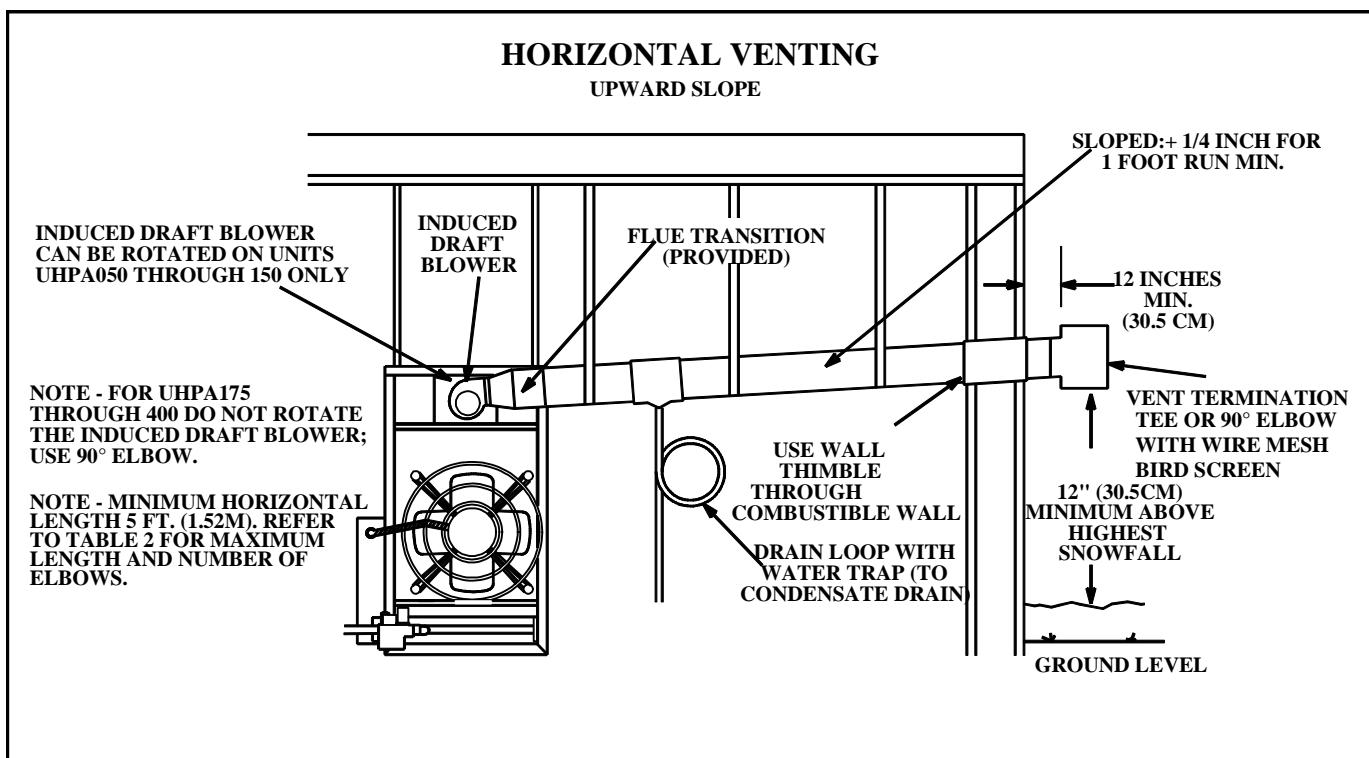
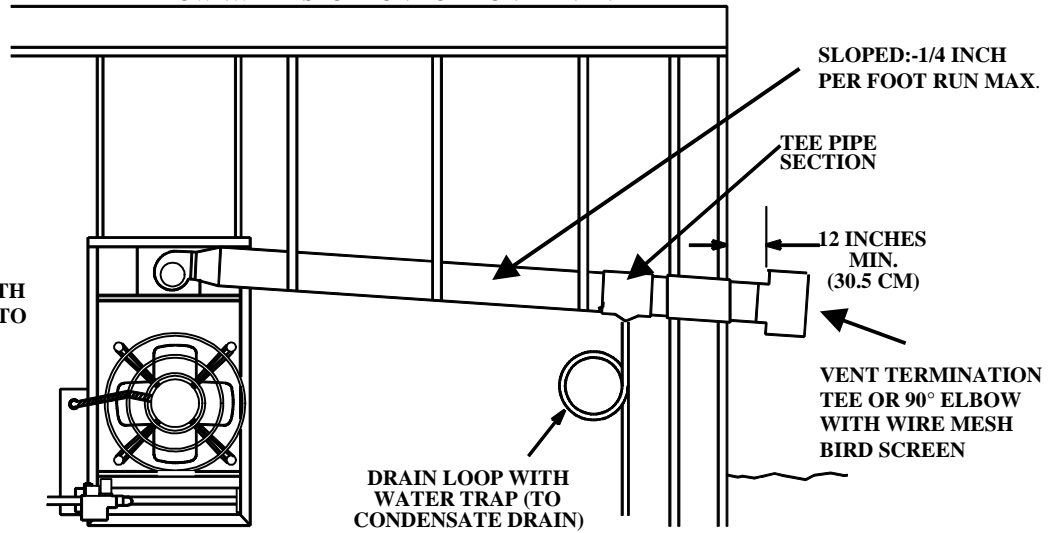
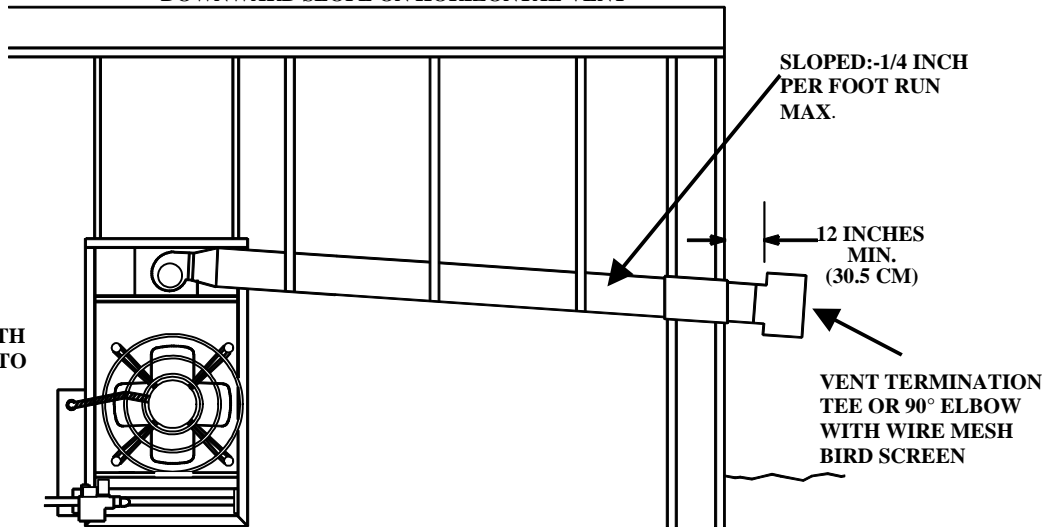

FIGURE 3
FIGURE 4
FIGURE 5
If the UHPA unit heater is to be horizontally vented, a positive pressure may be created in the vent. The UHPA unit heater, when installed with horizontal venting, may perform as a Category III. Use single wall vent material installed according to the section **Venting A - General Recommendations and Requirements** or use listed special vent for Category III appliances. Refer to figures 3, 4, and 5. The minimum horizontal vent length is five feet (1.52m). Refer to table 2 for the maximum horizontal vent length and the number of elbows permitted.
- 1- Select a wall termination point that will maintain 1/4" rise per foot slope of horizontal run of vent pipe (figure 3). In areas where authorities having jurisdiction permit, a downward slope of maximum 1/4" per foot is also acceptable. In such cases, a single wall vent pipe must be constructed of no. 24 GSG (0.60mm) galvanized steel. Condensate drainage can be collected in a tee pipe section (figure 4) with drain loop similar to one used for upward slope vent, or allowed to drip through the vent termination, if permitted by authorities (figure 5).
- 9- For upward sloped vent, see figure 3, condensate tee and drain must be installed within the first 5' (1.5m) from the unit heater to protect the appliance.